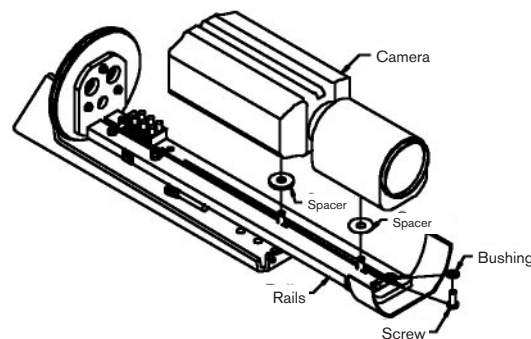

FIGURE 5 Mounting a Zoom Lens Camera
**Zoom Lens Cameras:** Position the camera/lens so that the lens is positioned over the heater but not past it. The camera/lens combination will determine the screws and spacers that will be needed. Secure the camera and lens to the rail assembly with 1/4-20 BHC screws, nylon bushings, and plastic spacers. Place the nylon bushings over the screws and slide both between the rails through the front cut-out section. Slide the spacer over the screw so it is positioned in-between the rails and the camera. There are four large spacers (3.2mm) and four small spacers (0.4mm) provided. See FIGURE 5.